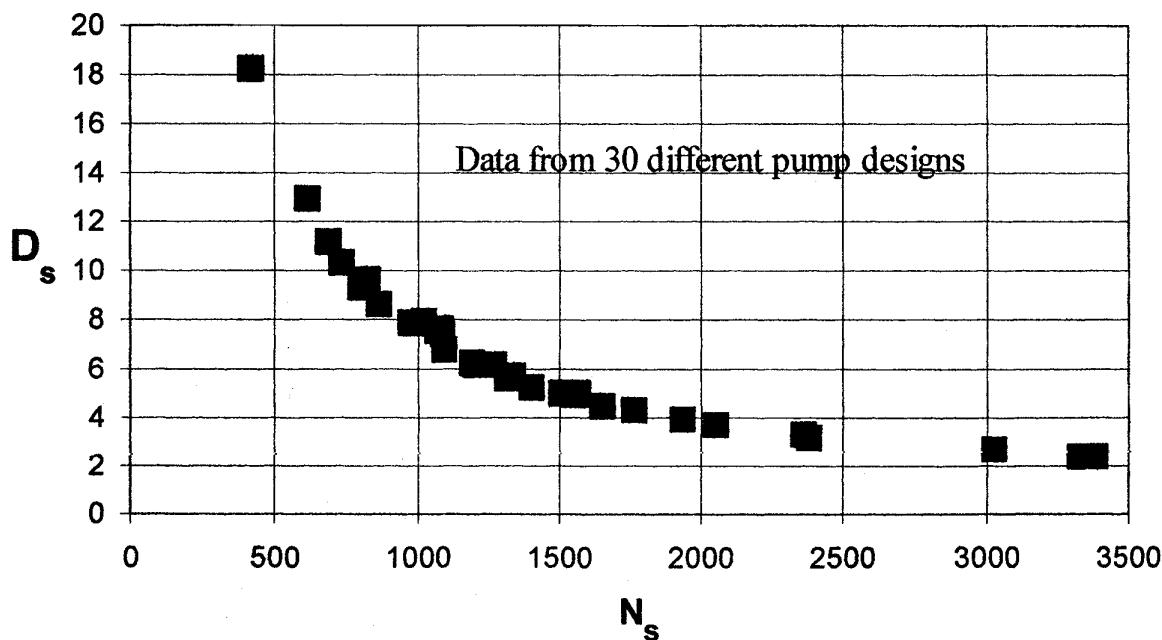

Fig. P11.46
**11.46** The answer to Prob. 11.40 is that the dimensionless “specific diameter” takes the form  $D_s = D(gH^*)^{1/4}/Q^{*1/2}$ , evaluated at the BEP. Data collected by the writer for 30 different pumps indicates, in Fig. P11.46, that  $D_s$  correlates well with specific speed  $N_s$ . Use this figure to estimate the appropriate impeller diameter for a pump which delivers 20,000 gal/min of water and a head of 400 ft running at 1200 rev/min. Suggest a curve-fit formula to the data (*Hint: a hyperbola*).
$$\text{Figure P11.46: } D_s \approx \frac{\text{Const}}{N_s}, \text{ where Const} \approx 7800 \pm 300 \quad \text{Ans.}$$